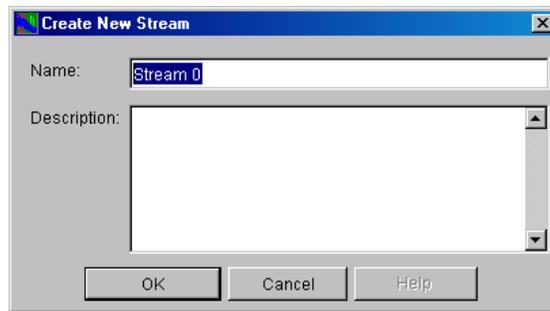

Figure 5.7 Create New Stream Dialog Box
6. The **Create New Stream** dialog box (Figure 5.7) opens. You can either accept the default name or enter a new name. Also, you can enter a description for the stream element. Click **OK** to close the **Create New Stream** dialog box.